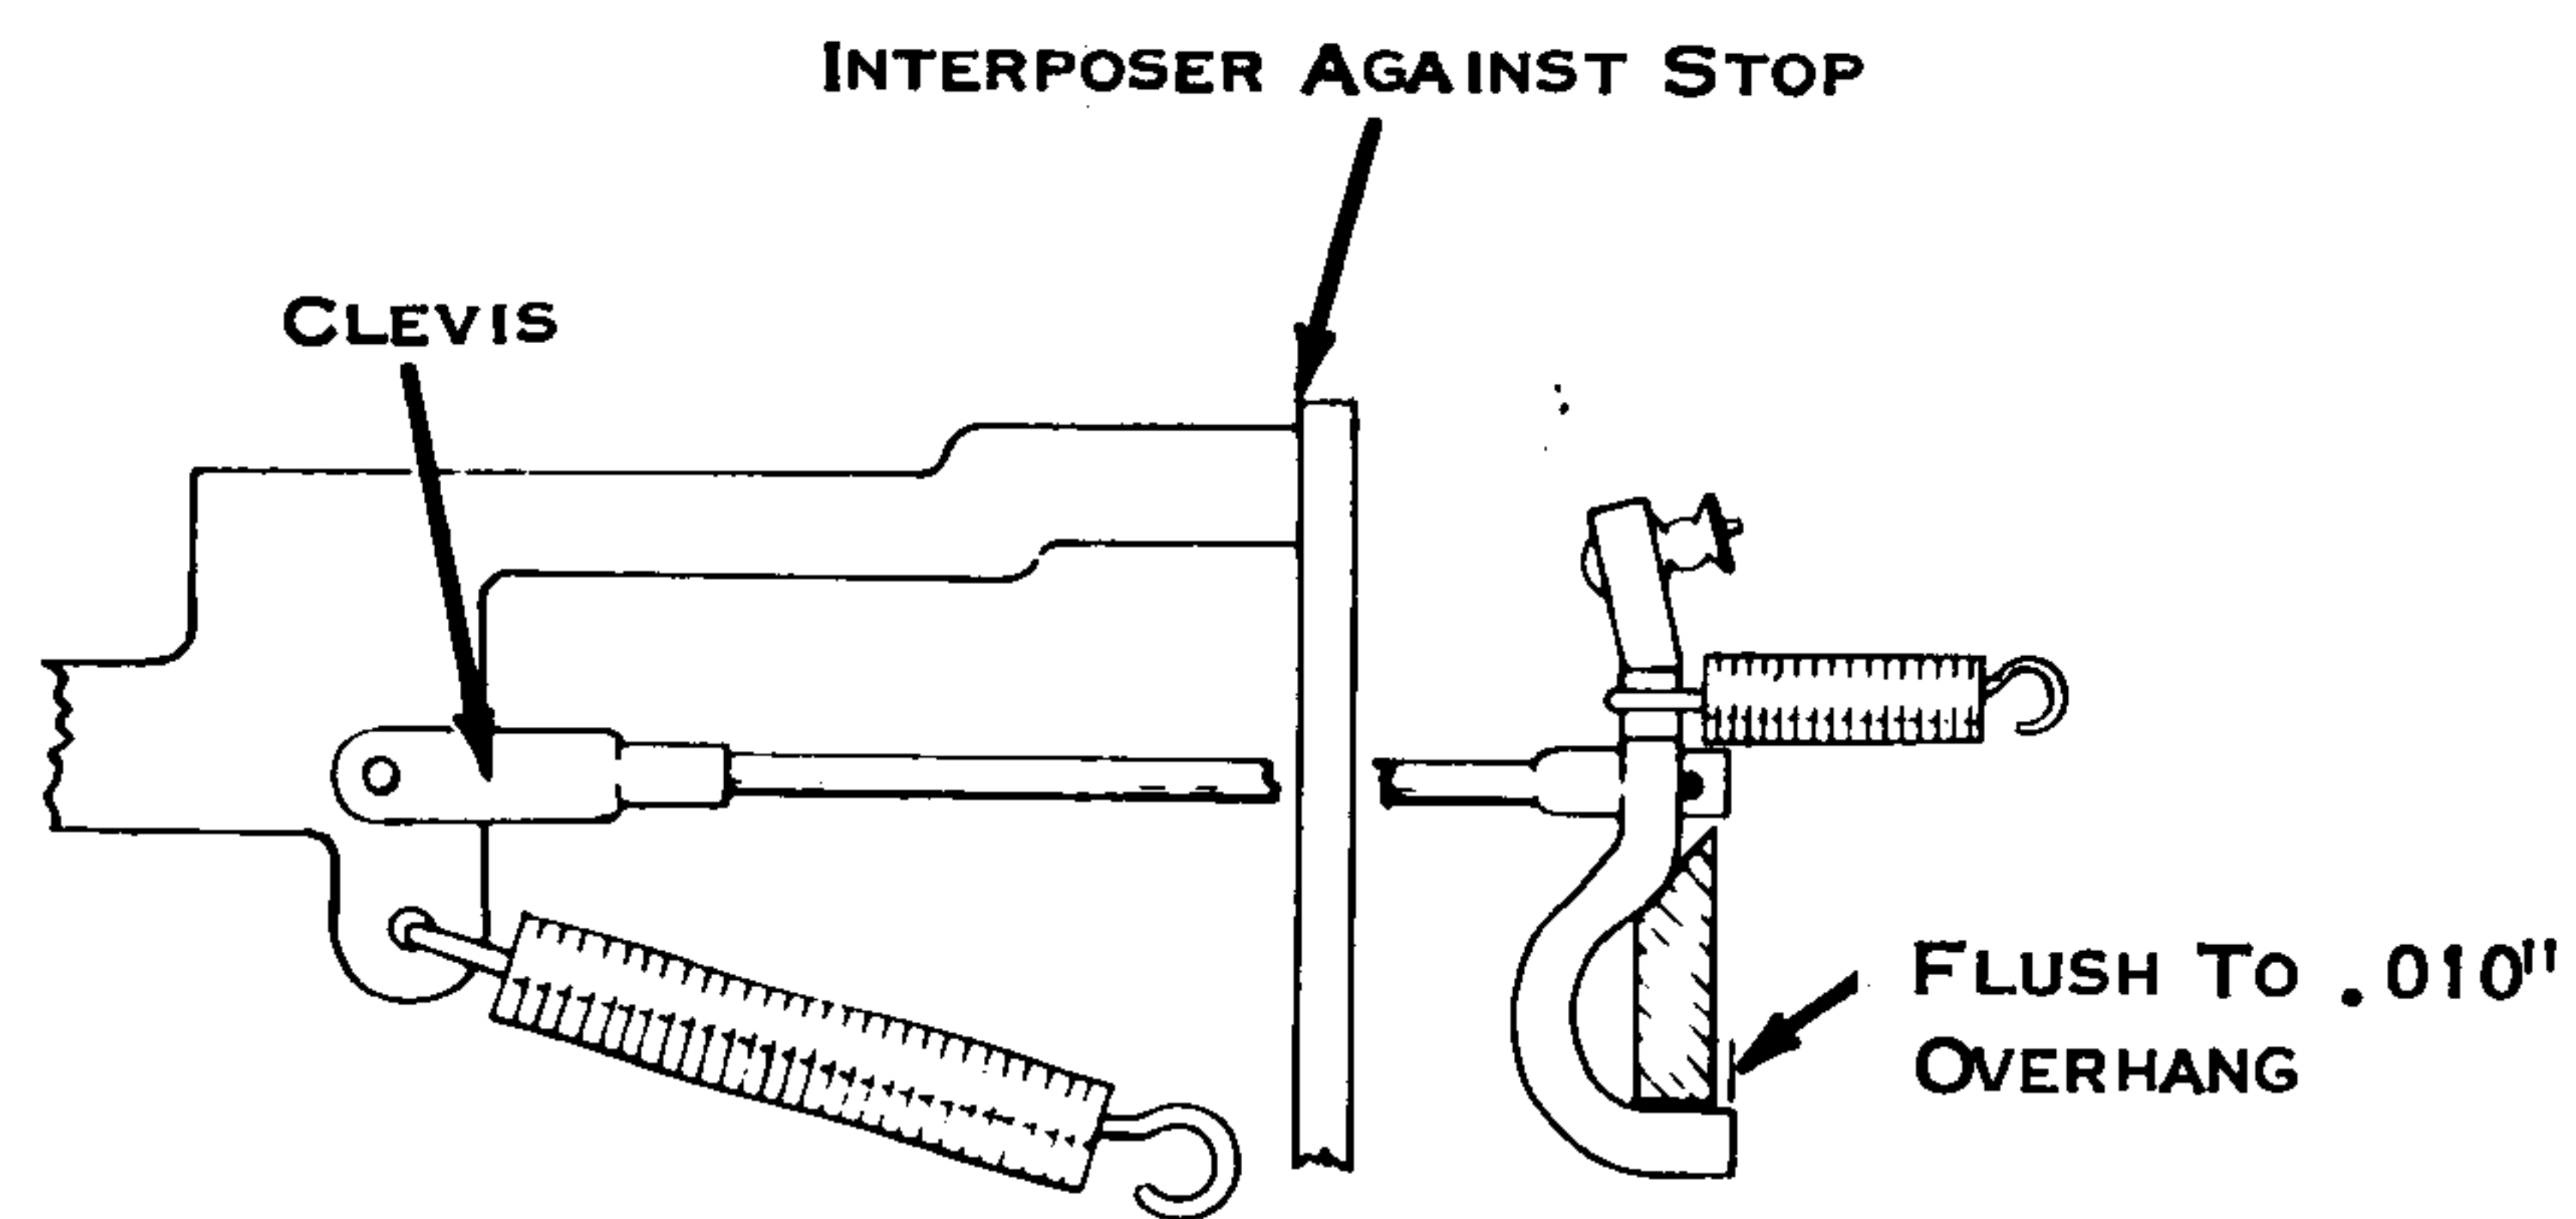

Figure 57. Positive Latch Links
- c. All Others - Latches overlap bail flush to .010" overhang (Fig. 57).